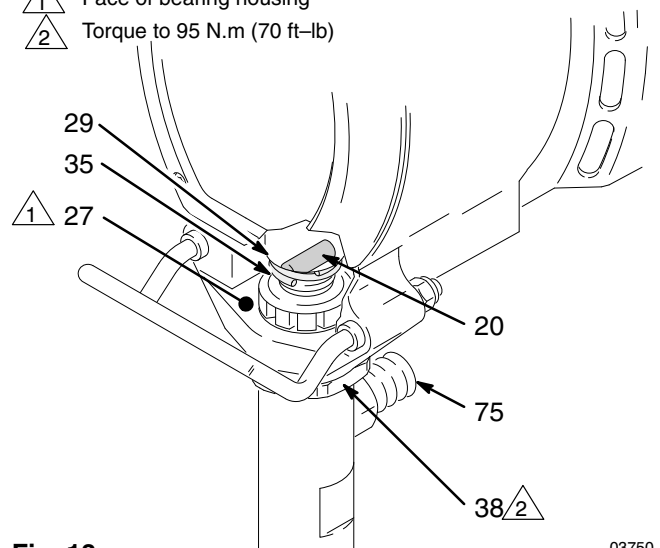

Fig. 13
9. Test the brushes. Remove the connecting rod pin (20). See Fig. 13, page 13. With the sprayer off, turn the pressure control knob fully counterclockwise to minimum pressure. Plug in the sprayer. Turn the sprayer on. Slowly increase the pressure until the motor is at full speed. Inspect the brush and commutator contact area for excessive arcing. Arcs should not “trail” or circle around the commutator surface.